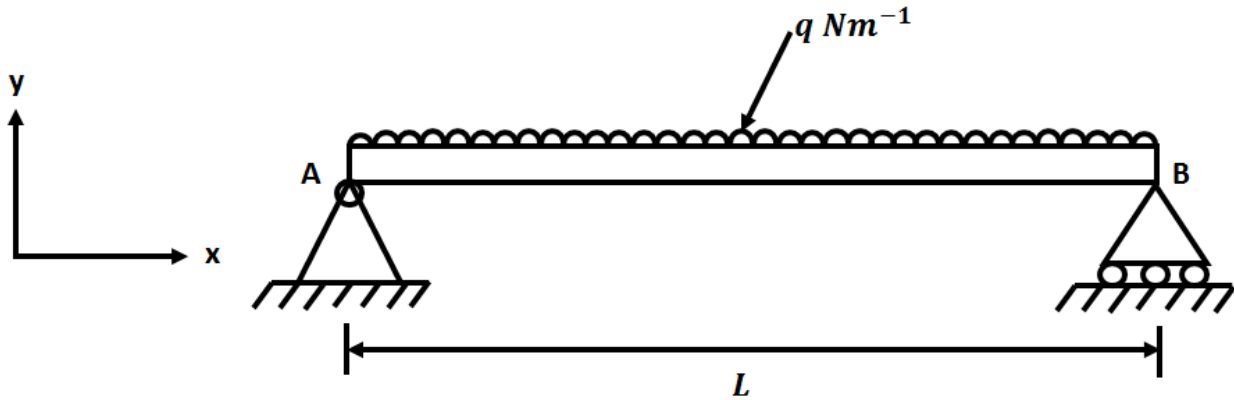

Fig. Q 2 (a)
- b) The simply supported beam shown in Fig Q 2 (a) is subjected to a uniform load of intensity q acting throughout the span of the beam. The beam has length L and constant flexural rigidity. Determine: